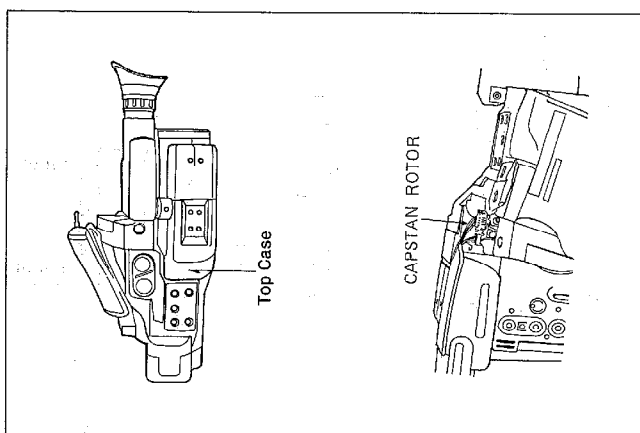

Fig.T12
- (2) In Case that Tape is not rewound completely but mechanism is fully unloaded.
- * Remove the Top case as shown in Fig.T12
- * Eject it as procedure (1)